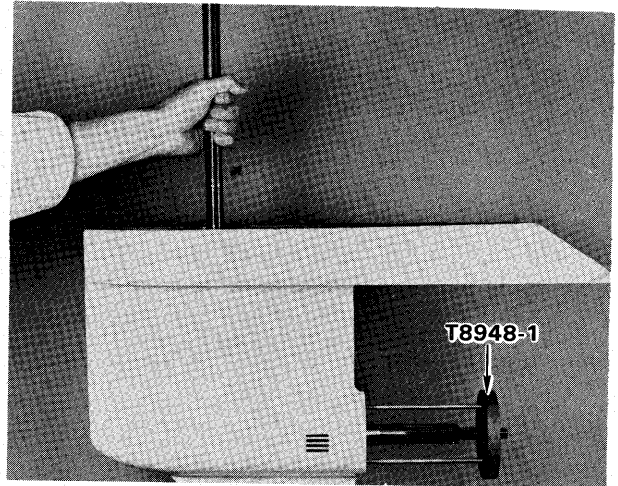

Figure 13—Removing Propeller Shaft Spool
- E. Shift unit into either forward or reverse gear and turn driveshaft so that the puller unthreads itself from the prop shaft. As this happens, it pulls the spool out of the gear housing. See figure 13.